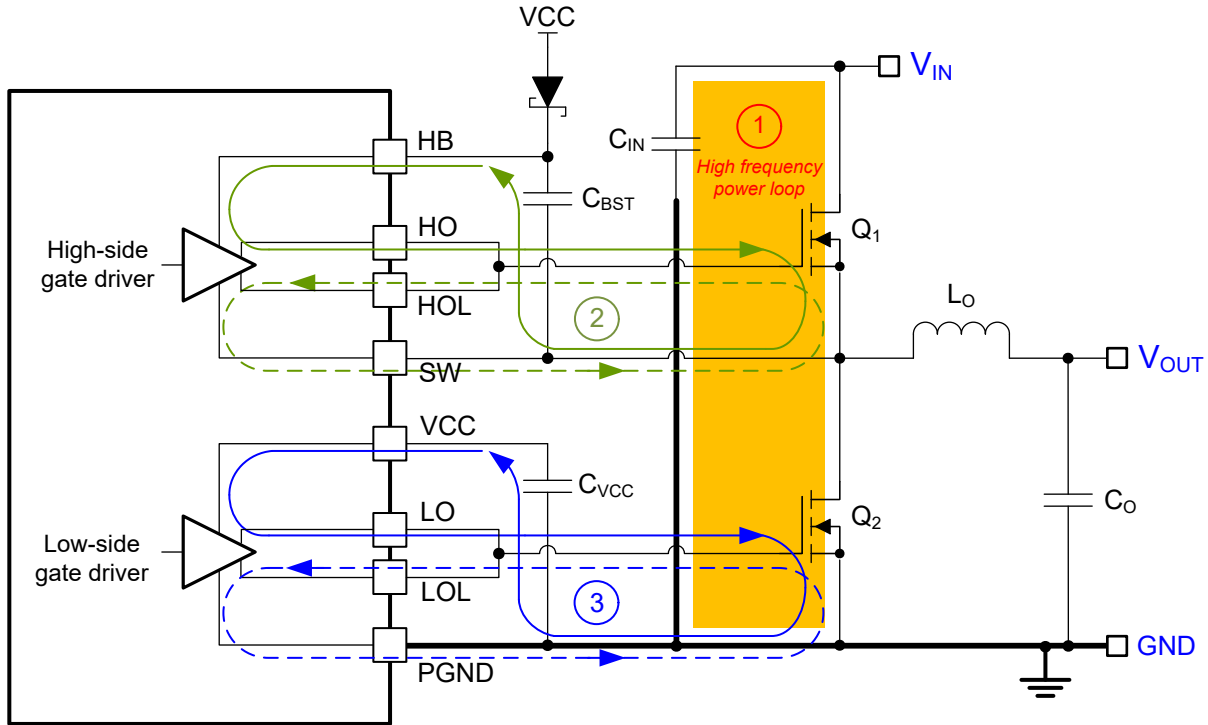

Figure 12-1. DC/DC Regulator Ground System With Power Stage and Gate Drive Circuit Switching Loops
Proper PCB design and layout is important in a high-current, fast-switching circuits (with high current and voltage slew rates) to achieve a robust and reliable design. As expected, certain issues must be considered before designing a PCB layout using the LM5143A-Q1. The high-frequency power loop of a buck regulator power stage is denoted by loop 1 in the shaded area of Figure 12-1. The topological architecture of a buck regulator means that particularly high di/dt current flows in the components of loop 1, and it becomes mandatory to reduce the parasitic inductance of this loop by minimizing its effective loop area. Also important are the gate drive loops of the low-side and high-side MOSFETs, denoted by 2 and 3, respectively, in Figure 12-1.
- Loop 1: The most important loop area to minimize is the path from the input capacitor or capacitors through the high-side and low-side MOSFETs, and back to the capacitor or capacitors through the ground connection. Connect the input capacitor or capacitors negative terminal close to the source of the low-side MOSFET (at ground). Similarly, connect the input capacitor or capacitors positive terminal close to the drain of the high-side MOSFET (at V_{IN}). Refer to loop 1 in Figure 12-1.
- The SW pin connects to the switch node of the power conversion stage and acts as the return path for the high-side gate driver. The parasitic inductance inherent to loop 1 in Figure 12-1 and the output capacitance (C_{OSS}) of both power MOSFETs form a resonant circuit that induces high frequency (greater than 50 MHz) ringing at the SW node. The voltage peak of this ringing, if not controlled, can be significantly higher than the input voltage. Make sure that the peak ringing amplitude does not exceed the absolute maximum rating limit for the SW pin. In many cases, a series resistor and capacitor snubber network connected from the SW node to GND damps the ringing and decreases the peak amplitude. Provide provisions for snubber network components in the PCB layout. If testing reveals that the ringing amplitude at the SW pin is excessive, then include snubber components as needed.
- Loop 2: high-side MOSFET, Q_1 . During the high-side MOSFET turn-on, high current flows from the bootstrap (boot) capacitor through the gate driver and high-side MOSFET, and back to the negative terminal of the boot capacitor through the SW connection. Conversely, to turn off the high-side MOSFET, high current flows from the gate of the high-side MOSFET through the gate driver and SW, and back to the source of the high-side MOSFET through the SW trace. Refer to loop 2 of Figure 12-1.
- Loop 3: low-side MOSFET, Q_2 . During the low-side MOSFET turn-on, high current flows from the VCC decoupling capacitor through the gate driver and low-side MOSFET, and back to the negative terminal of the capacitor through ground. Conversely, to turn off the low-side MOSFET, high current flows from the gate of the low-side MOSFET through the gate driver and GND, and back to the source of the low-side MOSFET through ground. Refer to loop 3 of Figure 12-1.